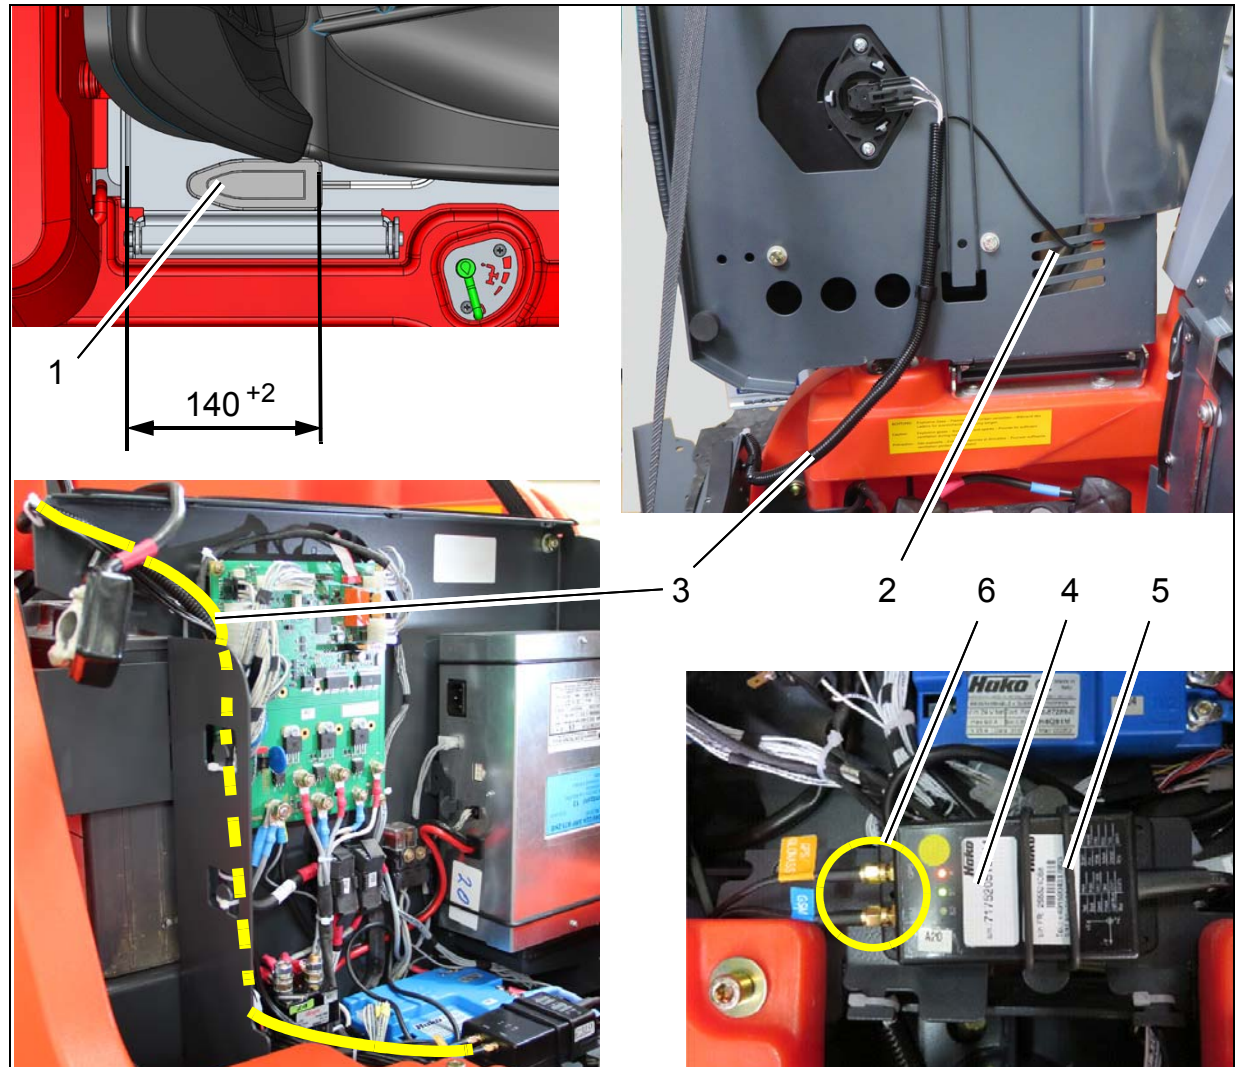

Fig. 3
2. Use the sticker to fix the antenna at a distance of 140 mm to the rear wall (Fig. 3/1).
3. Route the antenna cable through the ventilation slots of the seat console (Fig. 3/2).
4. Route the cable in a protective tube along the seat contact switch cable into the electronics compartment (Fig. 3/3).
5. Attach the Fleet-Recorder (Fig. 3/4) to the holder using an O-ring (Fig. 3/5).
6. Connect the antenna cable to the GPS and the GSM connections of the Fleet-Recorder (Fig. 3/6) according to the labelling.